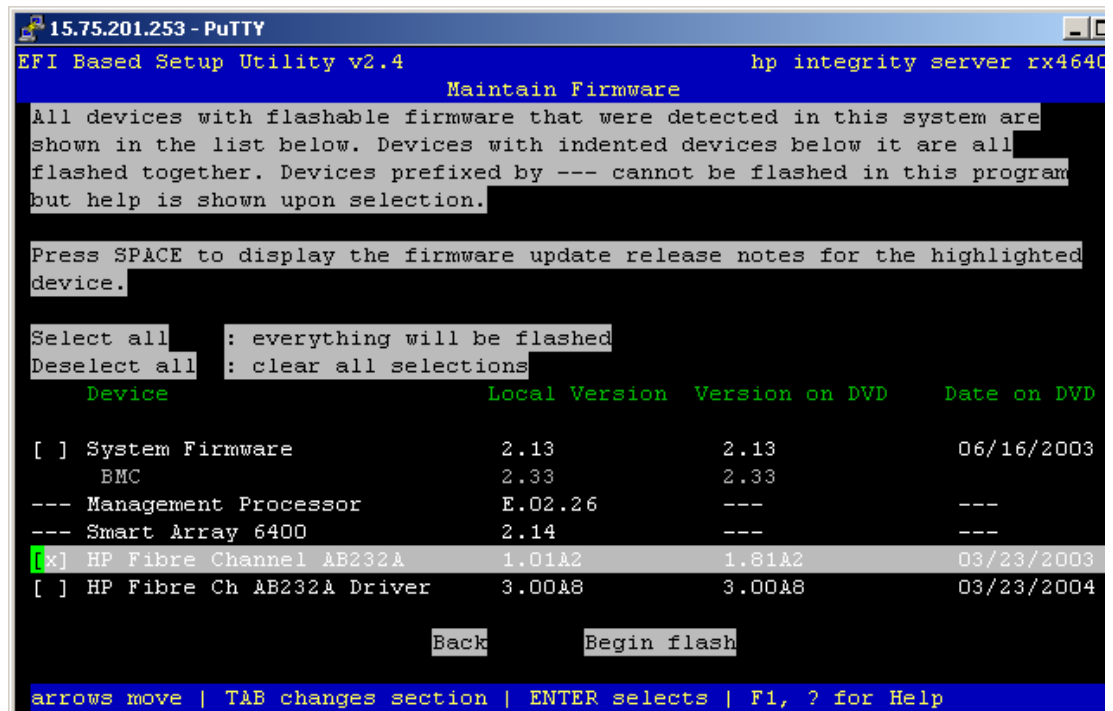

Figure 15: Selecting a component to flash
6. Select the devices that you want to update as shown in Figure 15.